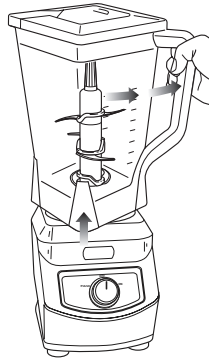
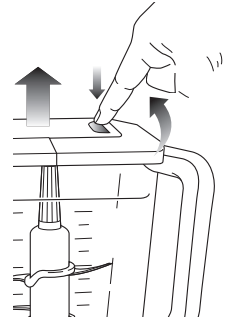

Fig. 6
Fig. 7
- 11 To remove the lid, pull the lid handle up to a 90° angle. Turn the pitcher clockwise to lift off the base. (Fig. 6, Fig. 7)